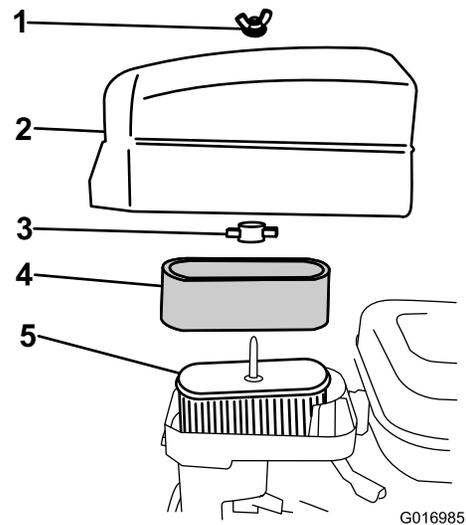

Figure 25
4. If the foam element is dirty, remove it from the paper element (Figure 25) and clean it thoroughly, as follows: